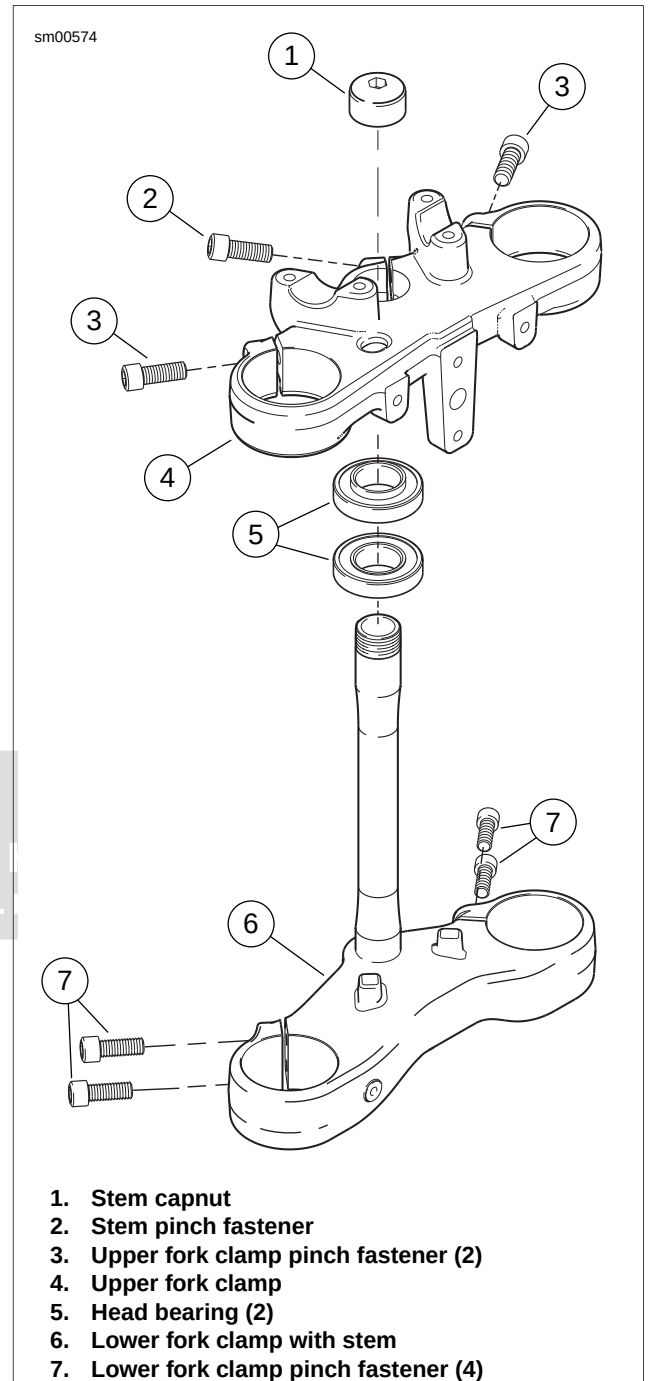

Figure 2-101. Steering Stem Assembly: Lightning/Ulysses
5. See Figure 2-101. Remove steering stem pinch fastener (2).
6. Hold or brace the lower fork clamp and remove steering stem capnut (1).
7. Remove the upper fork clamp (4).
8. Remove the lower fork clamp with stem (6).
1. See Figure 2-101. Install the lower fork clamp with stem (6) into the steering stem bore and install the upper fork clamp (4).
2. Install steering stem capnut (1). Tighten but do not torque.
3. Install one front fork assembly into lower fork clamp with stem (6).